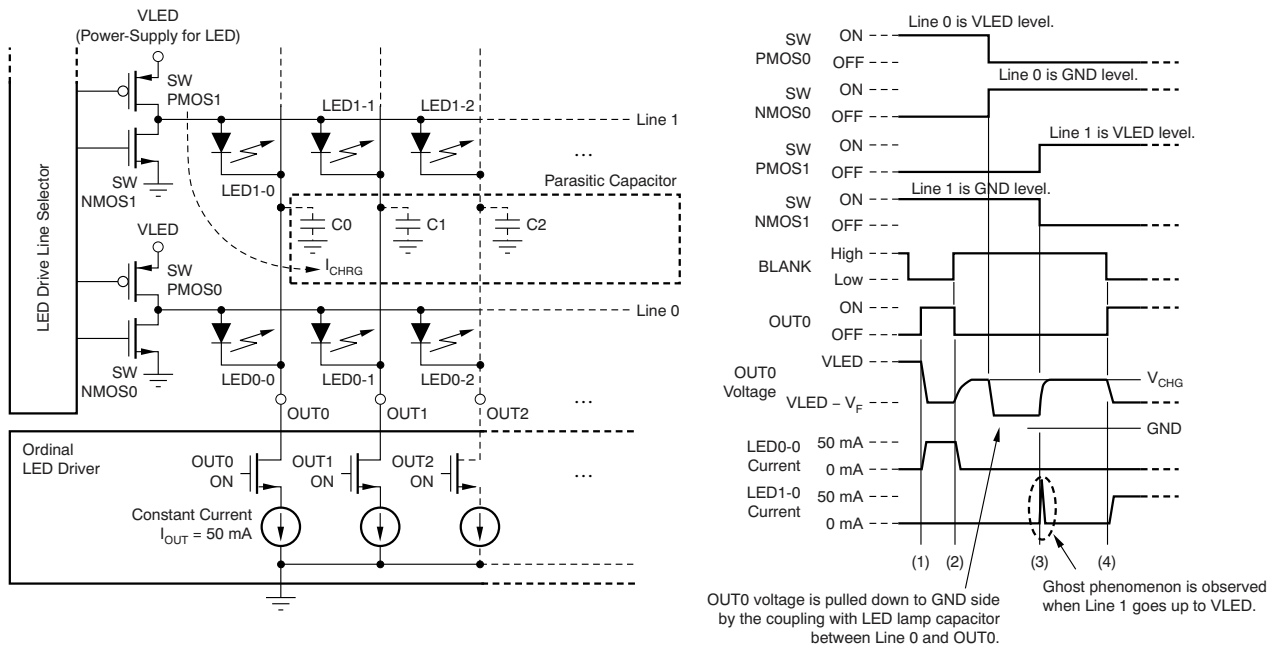

Figure 33. LED Ghost-Lighting Phenomenon Mechanism
The internal pre-charge FET can prevent ghosting of multiplexed LED modules. One cause of this phenomenon is the charging current for parasitic capacitance of the constant current output line and driver through the LED. One of the mechanisms is shown in Figure 33.
In Figure 33, the constant current driver turns LED0-0 on at (1) and off at (2). After LED0-0 is turned off, OUT_0 voltage is pulled up to V_{CHG} by LED0-0. This OUT_0 node has some parasitic capacitance (such as the constant current driver output capacitance, and the board layout capacitance shown as C0-2). After LED0-0 turns off, SWPMOS0 is turned off and SWNMOS0 is turned on for LINE0, then LINE0 is pulled down to GND. Because there is a parasitic capacitance between LINE0 and OUT_0 , OUT_0 voltage is also pulled down to GND. After that, SWPMOS1 is turned on for next line (LINE1). When SWPMOS1 turns on, OUT_0 voltage is pulled up from the ground voltage to $V_{\text{LED}} - V_F$. The charge current (I_{CHRG}) flows to the parasitic capacitor (C0) through LED1-0, causing the LED to briefly turn on and creating the ghosting effect of LED1-0.